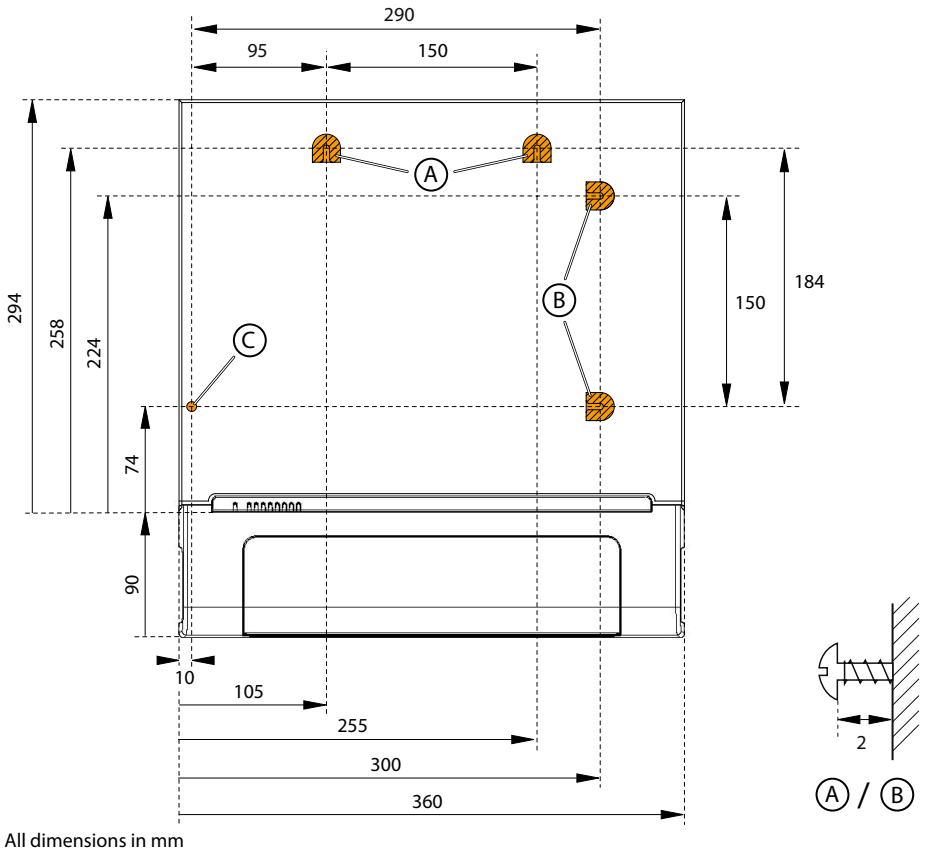

Fig. 20 Drilling plan for A150/300 wall mounting
4. Screw in the two shorter upper dowel screws (position A or B). Observe the distance between the screw heads and the wall as shown in Fig. 20.
To protect the cable connections the system can also be secured using three screws. The same drilling plan (see Fig. 20) and the same procedure apply as for wall mounting (see "Wall-mounting procedure", page 93).